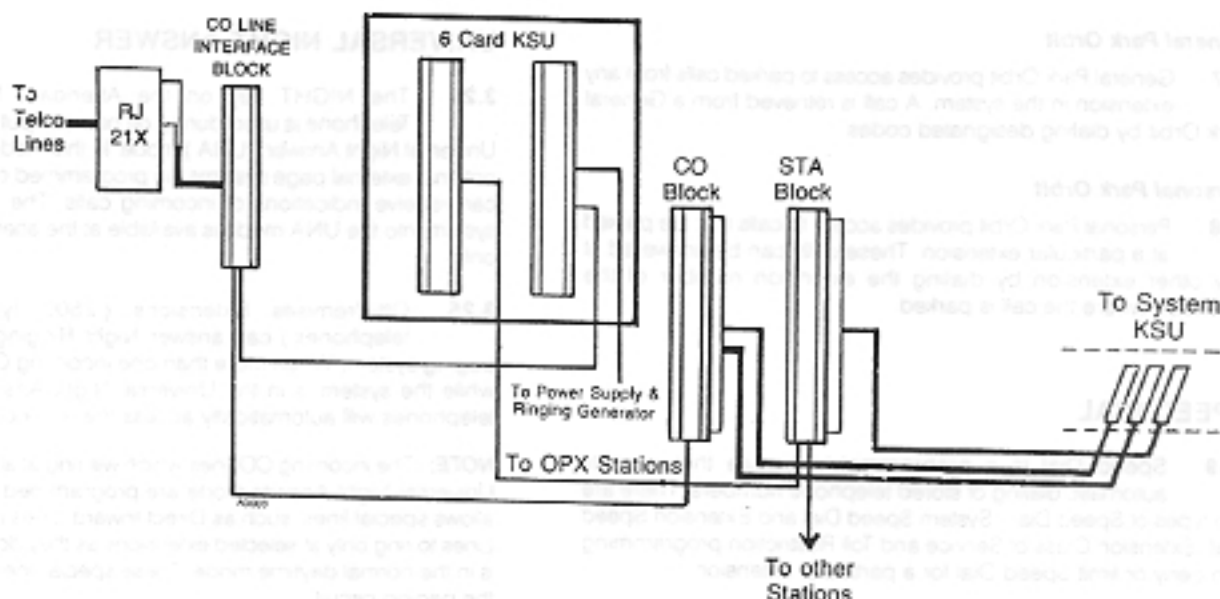

Figure 5a OPX INSTALLATION WITH 6 CARD KSU
**4.01** The following paragraphs provide instructions for connecting the OPX to the system equipment. It is recommended that the 6 Card and 13 Card KSU be mounted on a separate mounting board to the left of the system equipment and near a separate 115VAC, 15 amp outlet (Figures 5a and b). The maximum line loss for the OPX is 1300 ohms.